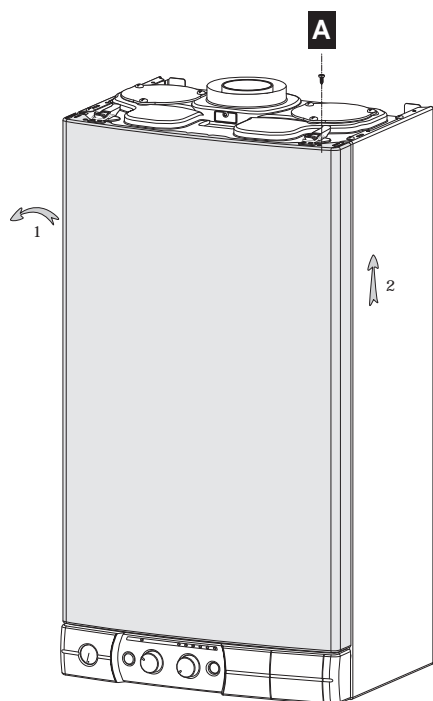

Fig. 26
- unscrew the clamp locking bolt **A**, which secures the front panel (**Fig. 26**)
- remove the front panel from the boiler (**1 & 2 Fig. 26**)